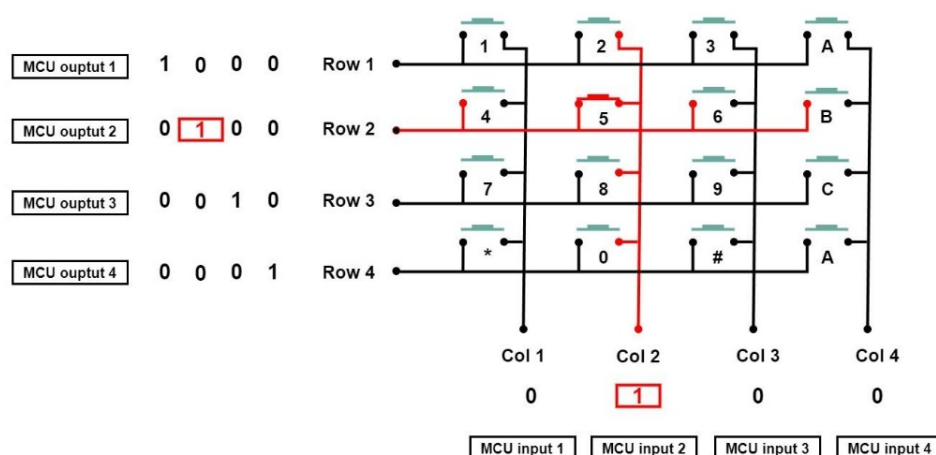

Figure 2.7: 4x4 matrix keypad to microcontroller connection diagram
- So, how does the microcontroller detect the key? We need to connect the ROWs to output pins and the COLs to the input pins. To identify the key pressed, we will drive one of the ROWs to High (1) and other ROWs to LOW (0) and keep checking the input pins (COLs). Whenever a key is pressed, the connection between ROW and COL gets completed and the COL pin will read 1. Now both the ROW and COL will be 1 and will know which pin has been pressed. The connection between 4x4 keypad and a microcontroller is illustrated in Figure 2.7
- Before proceeding with hardware connections, you need to assign the I/O pins of the microcontroller to the keypad columns and rows as illustrated in Figure 2.7.